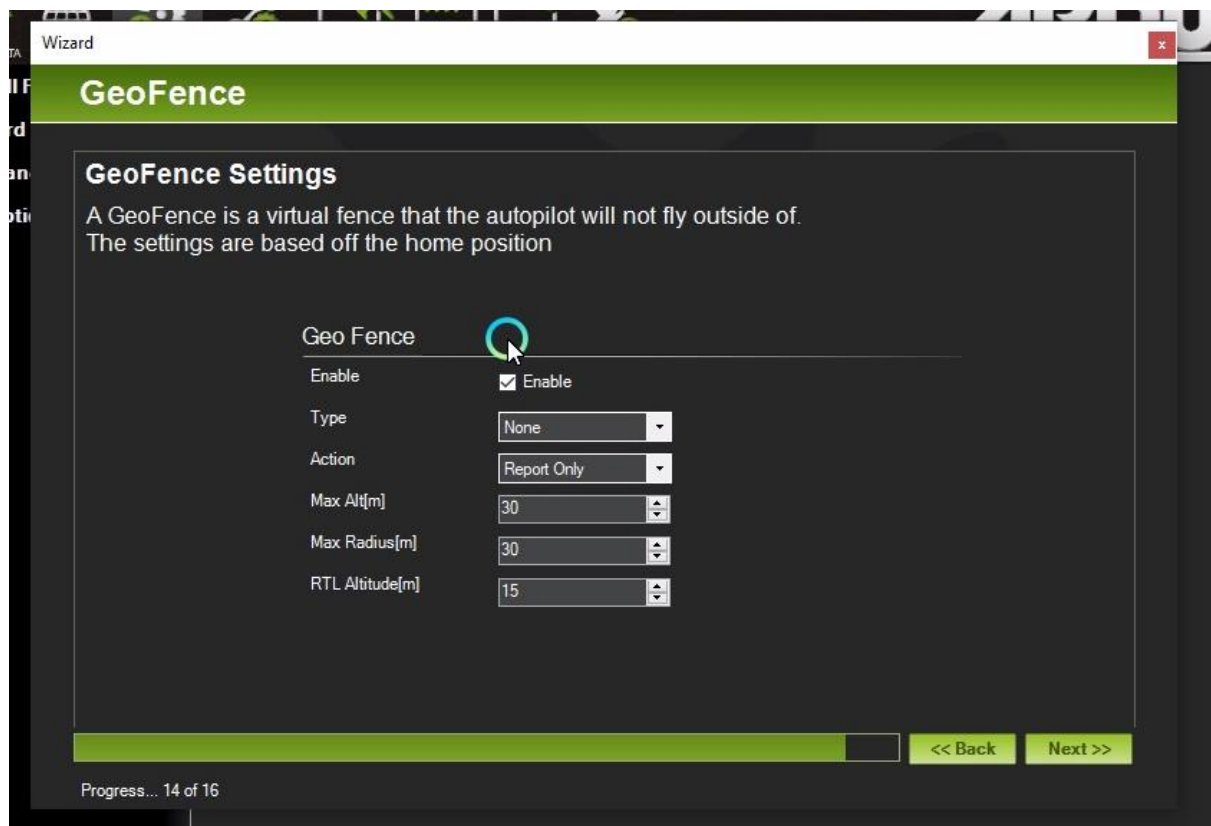

Fig.4.18
20. Enable Geo fence settings and keep the remaining things unchanged. Click Next. Refer Fig.4.18.